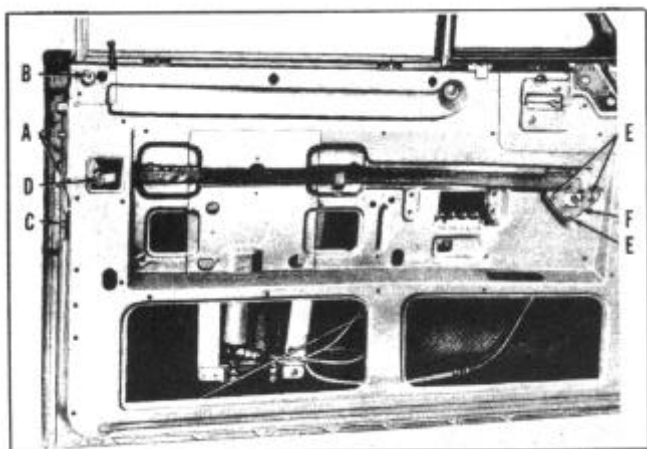

FIGURE 168
2. Remove three screws (E), Figure 168, from triangular bracket (F) at the handle end of remote control arm.
3. Remove anti-rattle spring (D) and pin from lock end of remote control arm and remove remote control.
4. Raise window and remove window guide channel screws (B and C), Figure 168, and remove channel by pulling channel down.
5. Remove three large Phillips head screws (A) attaching lock to edge of door.
6. Remove remote control anti-rattle spring (C) and pin connecting remote control arm to lock.